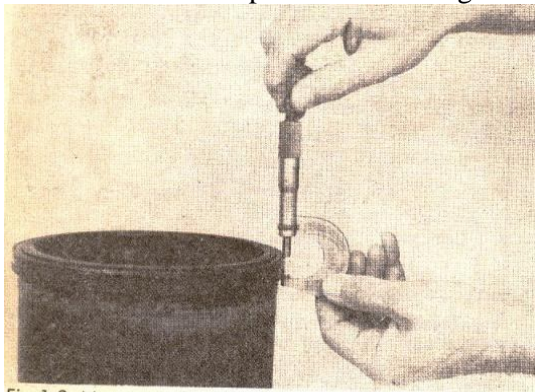

Fig. 1-3. Measuring liner flange
- i. Measure the liner flange, outside bead with a micrometer. DO not include the bead on top of the liner flange in taking the measurement. Fig. 1-3.